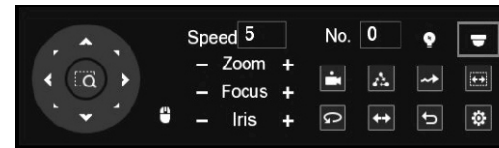

Figure 4-6
Step 3 Click **+** to see more options. See Figure 4-6.